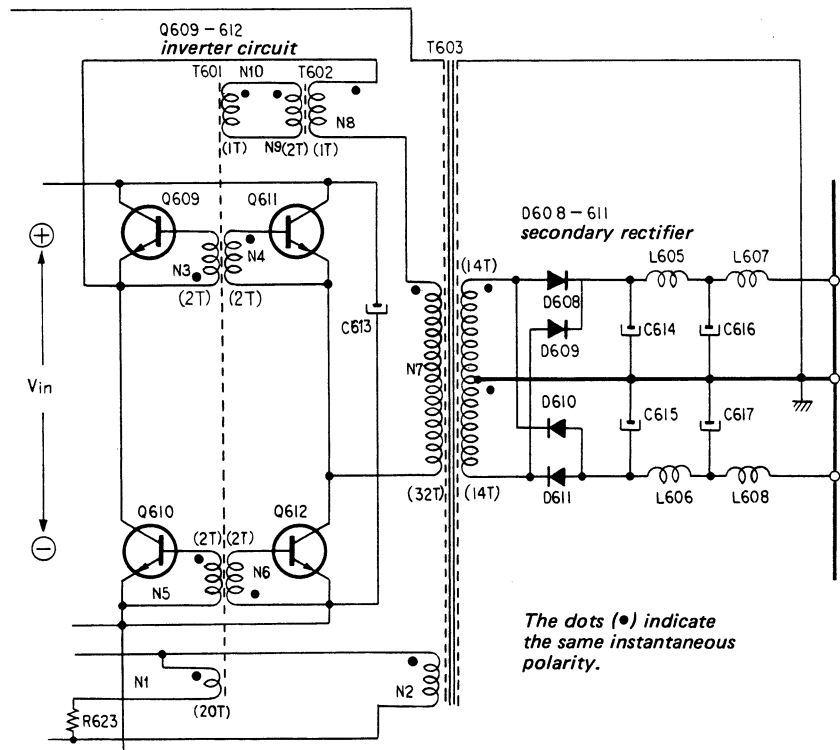
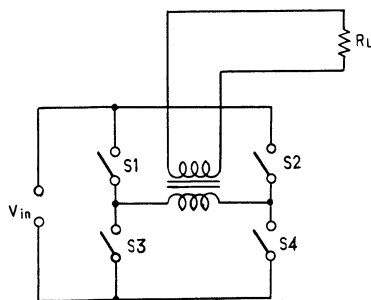

Fig. 13
Fig. 14
## 6. Inverter Circuit (See Fig. 13)
The circuit diagram in Fig. 13 is simplified to the circuit diagram in Fig. 14.
- The inverter circuit (Fig. 13) operates in the following manner.